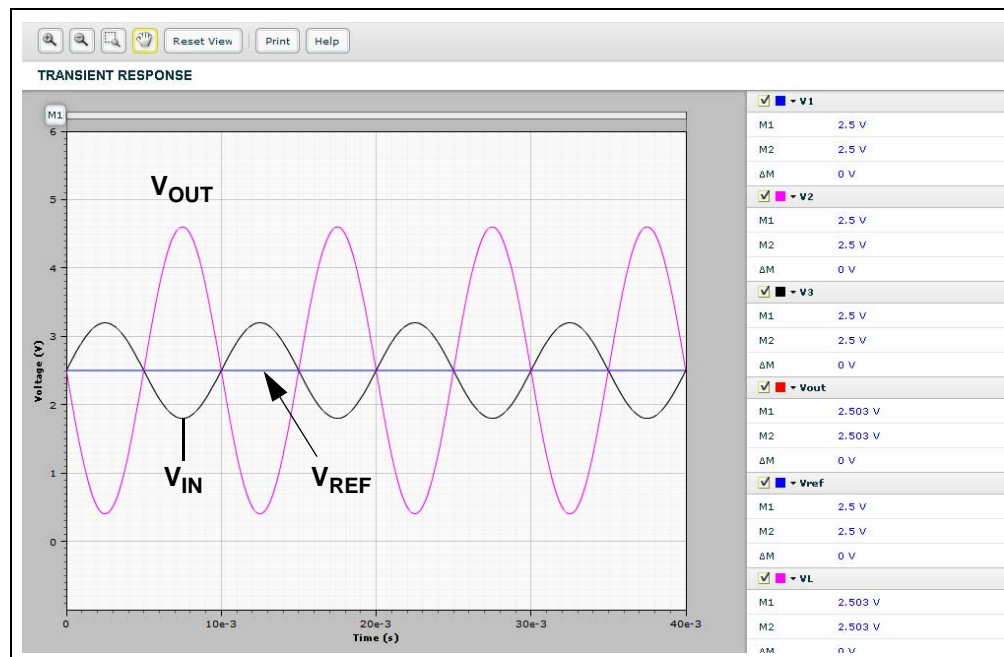

FIGURE 2-18: Simulated Sine Wave Response.
- The simulated sine wave response is shown in Figure 2-18. It is a sine wave signal with a frequency of 100.0 Hz, a peak-to-peak voltage of 4.2V and a center voltage of 2.5V